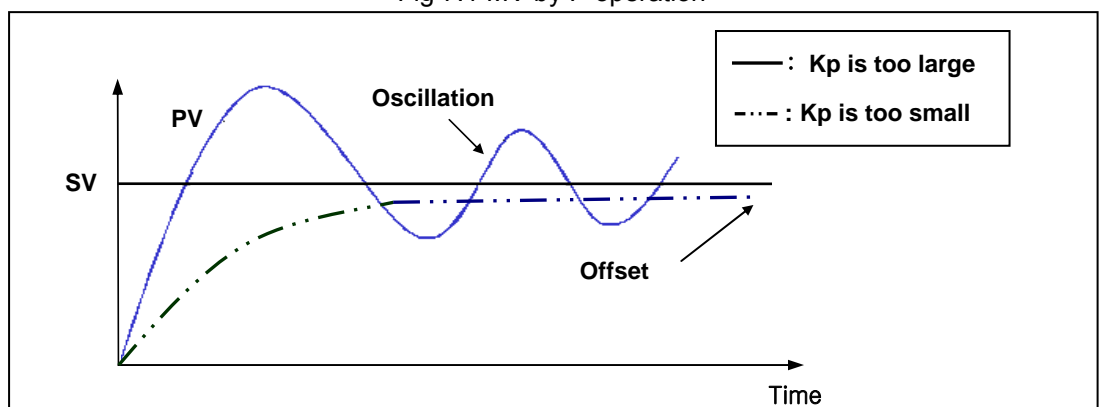

Fig. 7.2 The relation between Proportional constant (Kp) and present value (PV)
- ③ If the Kp is too large, the PV reaches to the SV swiftly, but it may cause a bad effect like oscillations.
- ④ If the Kp is too small, oscillation will not occur. However, the PV reaches the SV slowly and an offset may appear between PV and SV as shown in the Fig. 7.2.
- ⑤ The manipulation value (MV) varies from 0 to 4,000. User can define the maximum value of MV (MV\_MAX) and minimum value (MV\_MIN) within the range 0 ~ 4,000.
- ⑥ When an offset remains after the system is stabilized, the PV can be reached to the SV by adding a certain value. This value is called as bias value, and user can define the bias value.